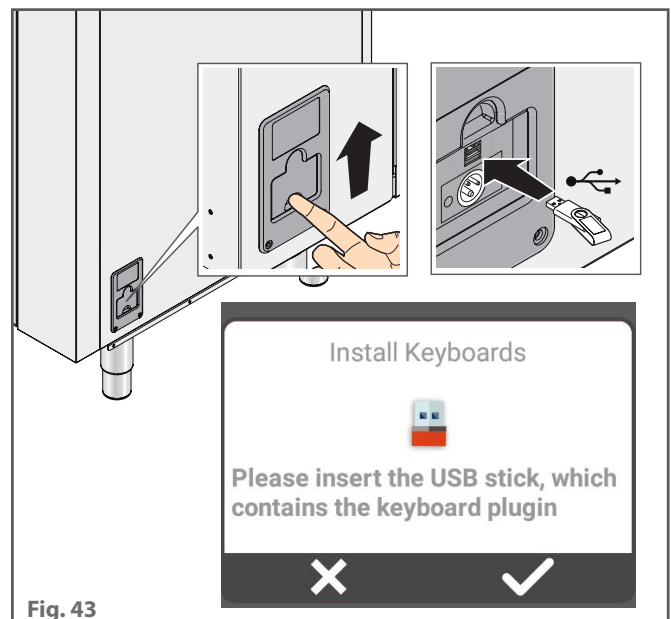

Fig. 43
- 2 ▶ **Fig. 43** a message will display asking you to insert the USB with the keyboard update file saved on it in the port on the side;